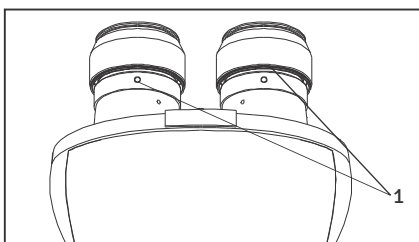

Fig.10
2. Insert 10x eyepieces into the ocular sleeve and tighten the clamping screw (1) using allen wrench 1.5mm. See figure 10.